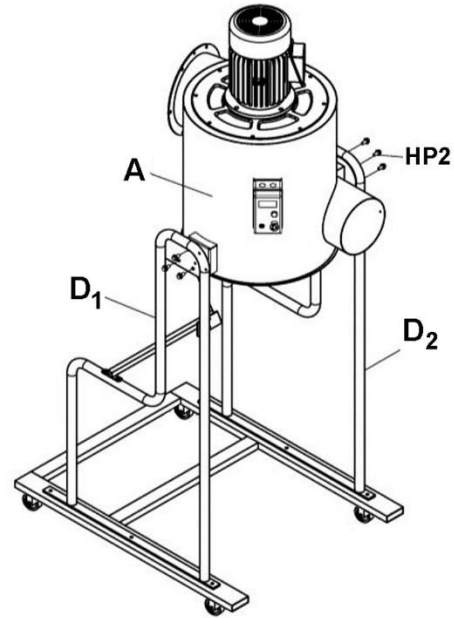

Figure 5
6. Position main housing (A) between left and right stands (D1, D2), and secure with flange head screws (HP2). See Figure 5.